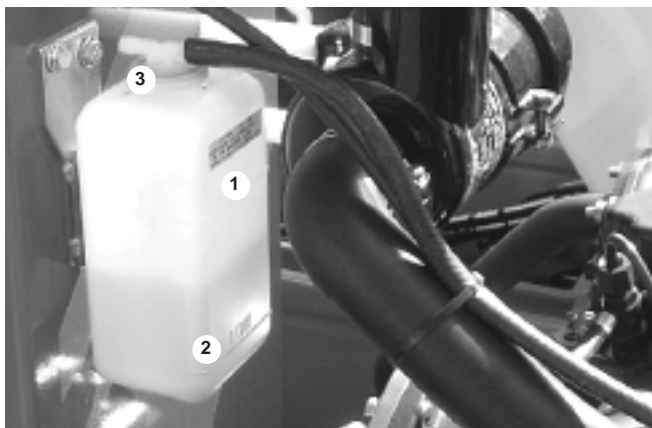

Figure 7.7 - Engine Coolant Level
The Kubota engine is liquid cooled. The coolant should be between the FULL level (1) and the LOW level (2) (see figure 7.7).